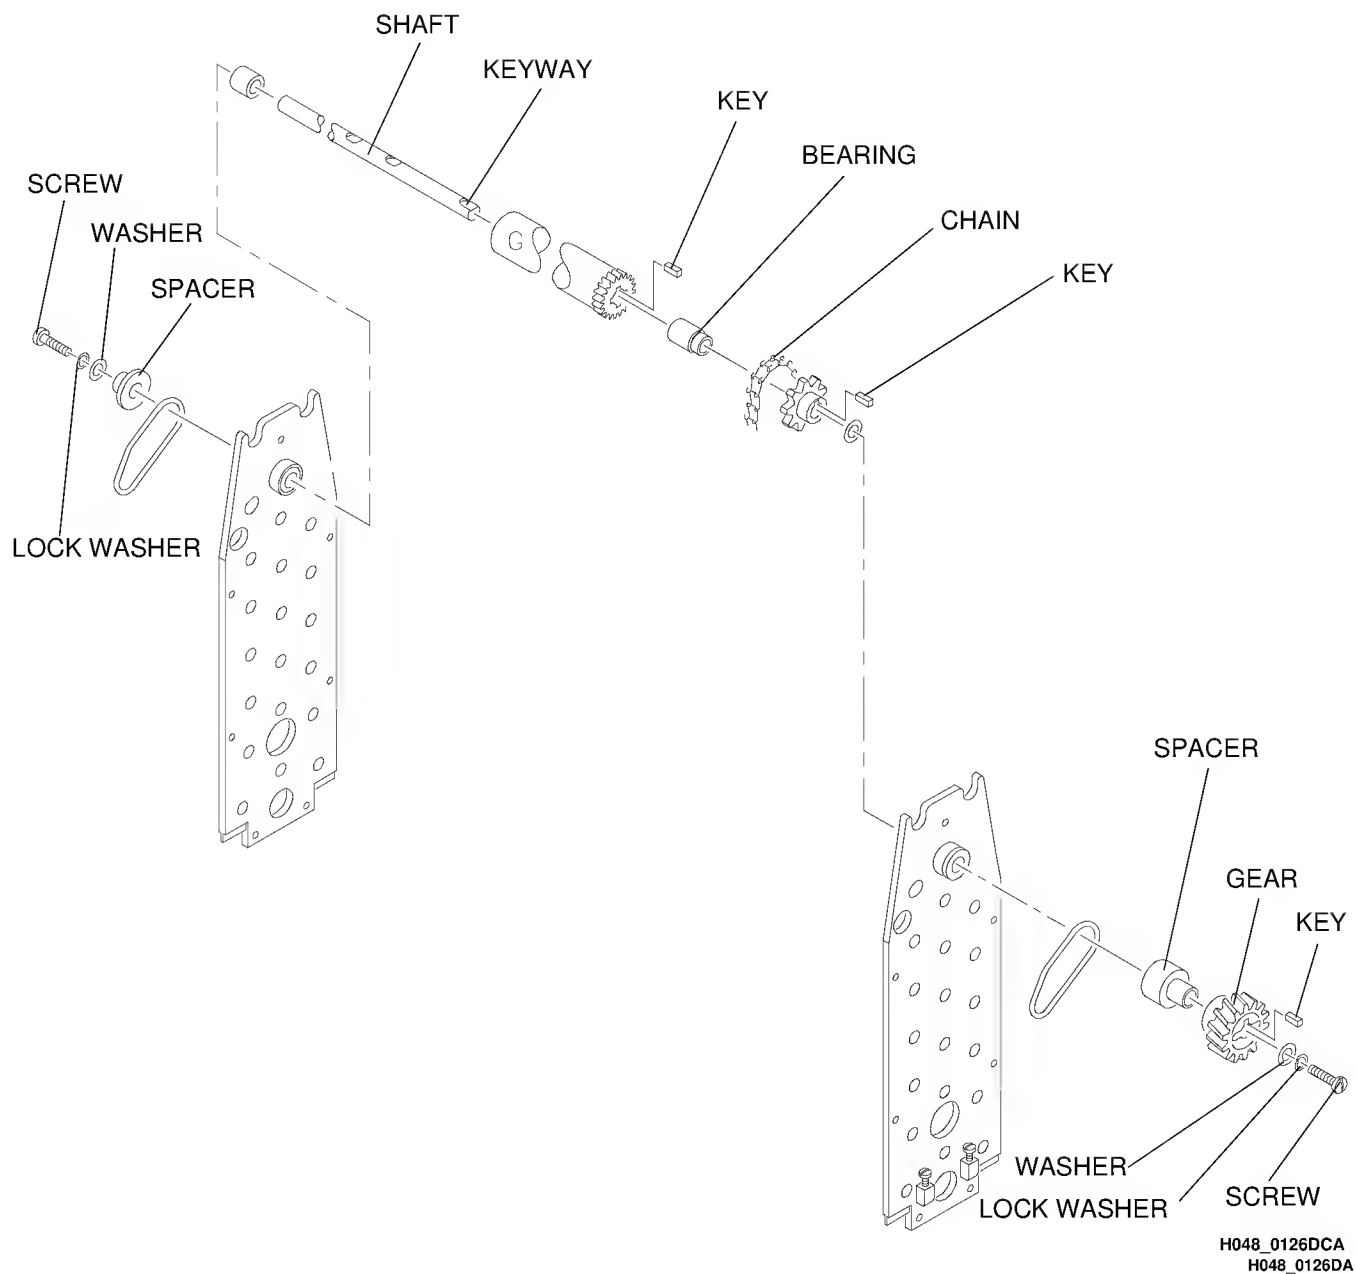

Figure 2-6 Disassembling the G Roller
- [3] Rotate the SHAFT so that the KEYWAY is in the up position. See Figure 2-6.